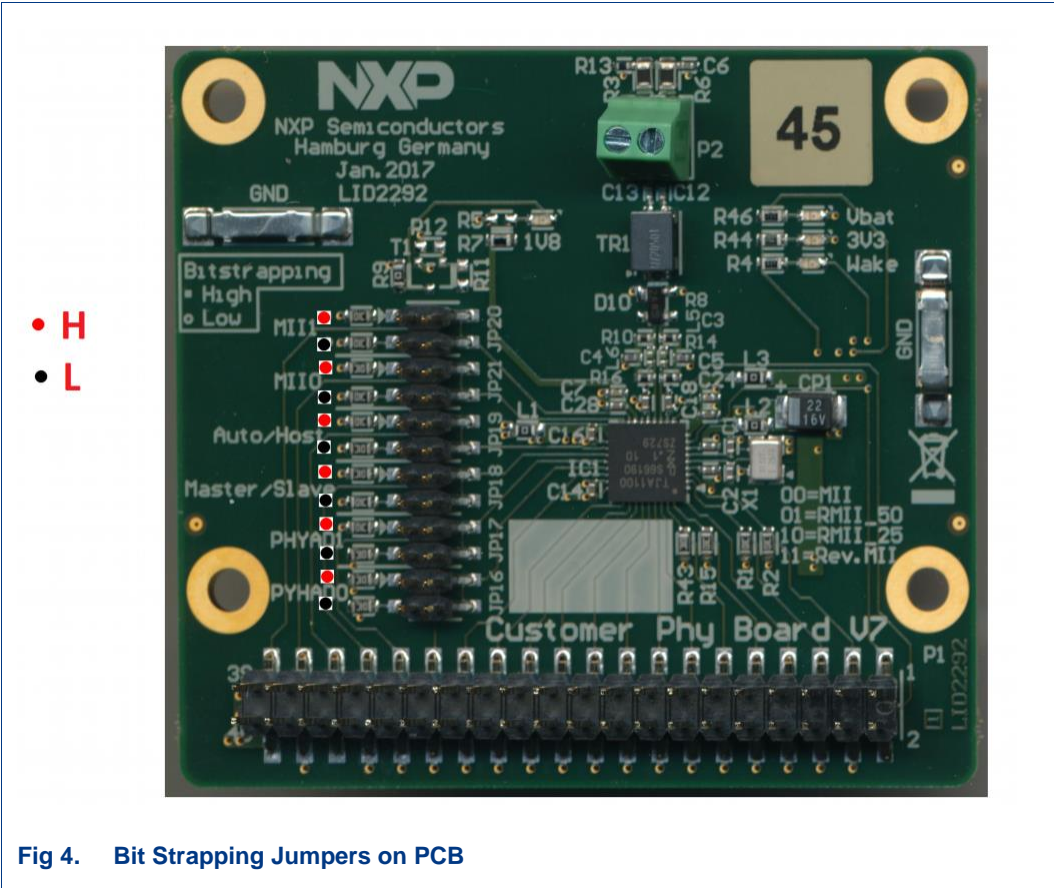

Fig 4. Bit Strapping Jumpers on PCB
The TJA1100 has several configuration pins for a pre-configuration during startup. The following tables give an overview of the related jumpers and possible configurations, as shown also in Fig 3. At the PCB (Fig 4) the orientation for High (H) and Low (L) is marked.